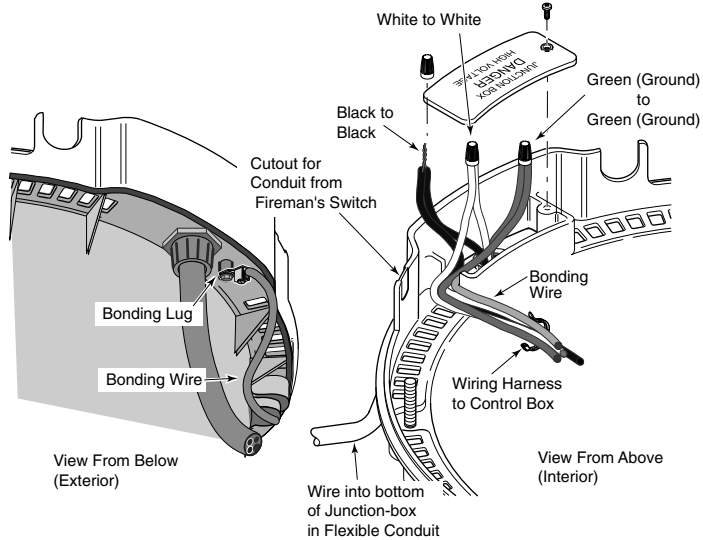

FIGURE 23: Field Wiring
Connect the hot lead of the power supply to the black wire, the neutral lead to the white wire, and the ground wire to the green wire (See Figure 23).
5. Connect the wires between the Fireman's Switch terminals on the heater and those on the time clock using 18 gauge wire with a minimum 3/64" thick insulation rated for a temperature rise of at least 105°C. Route the wires out through the knockout on the bottom of the Control Box. Use a 90° conduit el and conduit run out through the cutout on the Lower Enclosure, next to the Junction Box (see Figure 23).